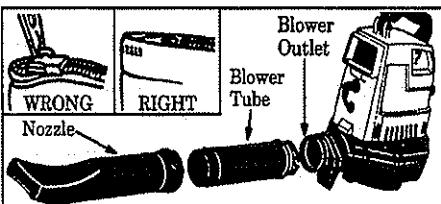

Figure 4
10. Never run the unit without the proper equipment attached. When using your unit as a blower, always install blower tubes. When using your unit as a vacuum, always install vacuum tubes and collection bag assembly. Make sure collection bag assembly is completely zipped as shown in Figure 4.
3. Close the zipper on the bag. Make sure the zipper is closed completely and the zipper seam is tucked toward the inside of the bag. Figure 4 (inset).
1. Remove the blower tube from the engine. Figure 4.
9. **Never run the unit without the proper equipment attached.** When using your unit as a blower, always install blower tubes. When using your unit as a vacuum, always install vacuum tubes and collection bag assembly. Make sure collection bag assembly is completely zipped as shown in Figure 4.